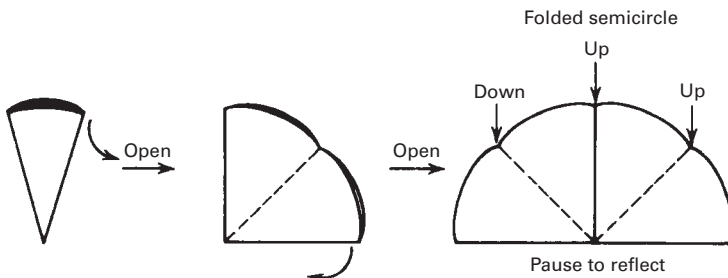

FIGURE 13.10 Unfolding to a sort of bent semicircle.
2. Unfold this cone *twice* so it looks like a semicircle (Fig. 13.10), and then put it down on a flat surface. Look at it and think for not less than two full minutes the first time you do this.